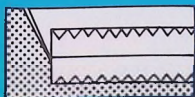
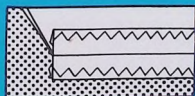

Fig. 1
Fig. 2
Fig. 1 shows the raw edge finished. Fig. 2 illustrates the folded edge stitched.
2. Fold garment away from hem leaving 1/8" of hem edge extending. Fig. 2